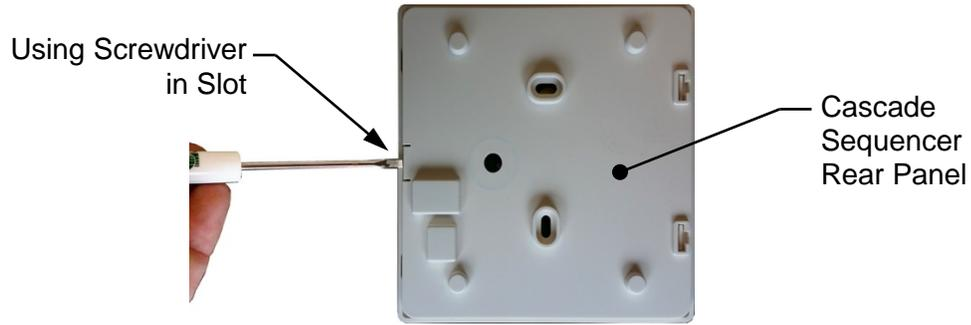

Figure 1-4: Opening Rear Panel of Cascade Sequencer
1. Using a small flat head screwdriver, remove the rear cover of the Cascade Sequencer by levering up the panel via the slot, as shown in Figure 1-4.